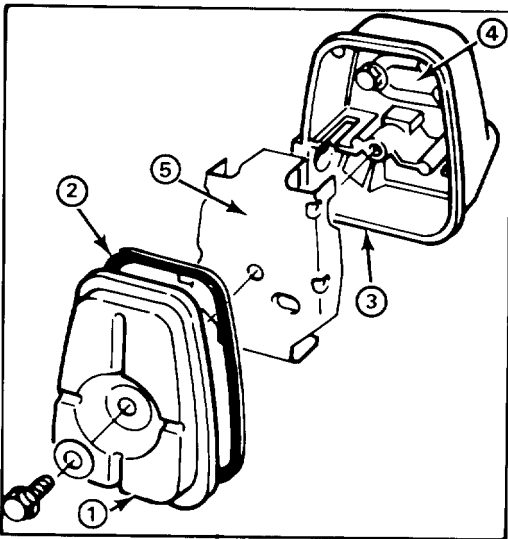

Figure 15
4. Rotate the engine crankshaft until the piston totally covers the exhaust port (Fig. 15). Clean the exhaust port area by using a clean, flat piece of hard wood. Remove all loose particles.